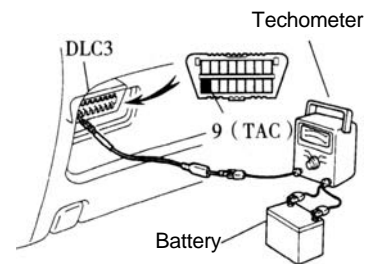

Figure 3
- (1) Transmission shift lever should be in neutral position when checking ignition timing.
- (2) Running engine at 1,000-1,300rpm for 5s and check at idle.
- (3) Remove the tester on fault diagnosis socket.
- (4) Ignition timing advance angle becomes larger when the engine roate speed is higher.
- (5) Remove timing light.
8. Check engine idle See (Figure 3)